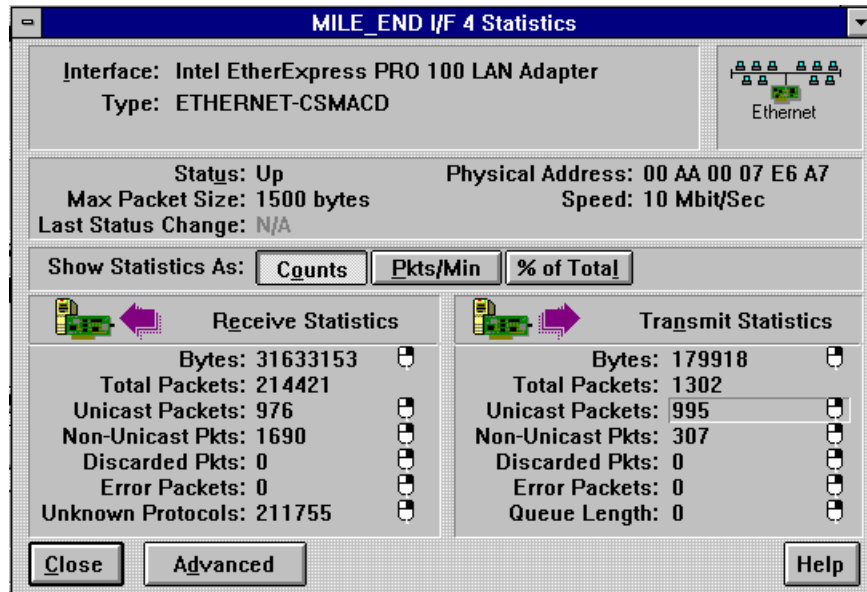

Figure 6-14. Finding the statistics for a particular NIC
7. Press *View Interface* button. The Statistics window is displayed for that particular NIC as shown in Figure 6-14. It shows statistics on network packets received and transmitted.